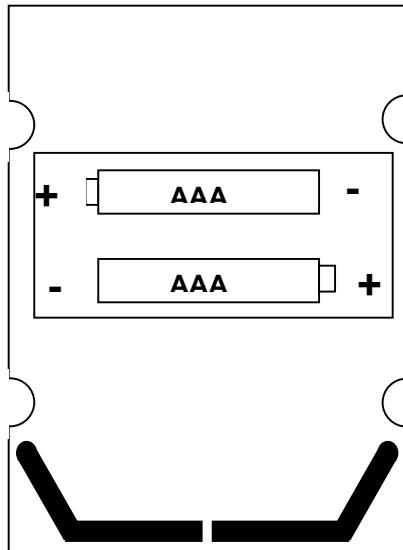

Figure 2
A) Remove the top cover from the Remote Data Collector (RDC) modules, and insert two AAA batteries per module. Observe the polarity markings on the battery holder as shown. In Figure 2.